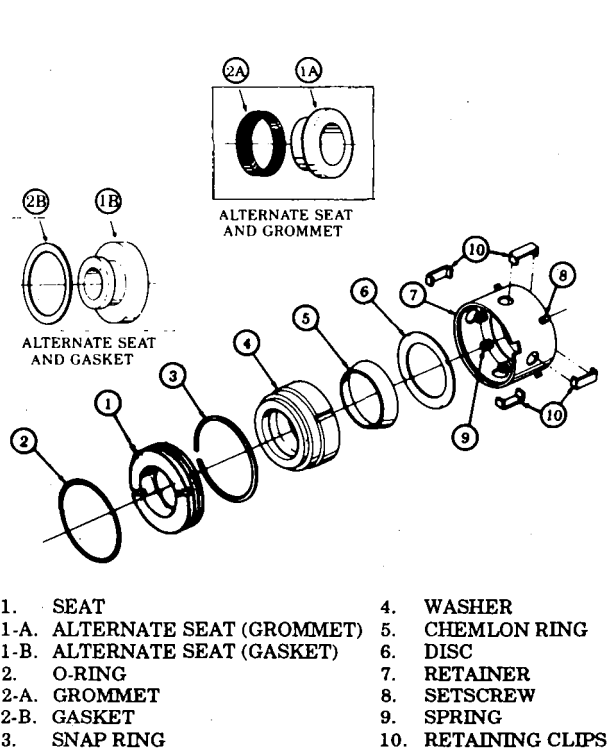
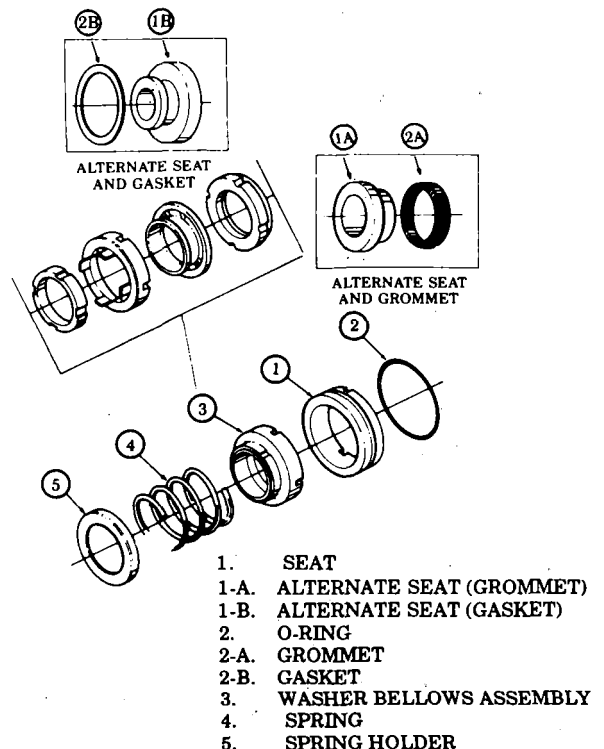

FIGURE 3. Crane Type 9 Mechanical Seal.
FIGURE 4. Crane Type 21 Mechanical Seal.
- (1) Pump model precedes rotor size. EXAMPLE: CB324AD-162.
- (2) Figure 7 pumps can be equipped with either Figure 3 or 4 seals.
- (3) Mechanical seal, Figures 3 and 4, can be equipped with either seal seat as illustrated in Figures 7 and 8.
- (4) C324A pumps with double extended power rotors are special design pumps, denoted by X in model designators. A bill of material suffix follows rotor size designator.
Figure 7: Remove bolts (046), seal cover (045) and gasket (044). **NOTE:** Mechanical seal seat will be removed with seal cover (045). Remove mechanical seal seat with O-ring or seal seat with brommet (Figure 8) from seal cover (045). Remove O-ring (2) from seat (1) (Figure 3 or 4) or grommet (2A) from seat (1A) (Figure 3 or 4). Remove mechanical seal rotating parts (3 through 9, Figure 3) or (3 through 5, Figure 4), shim (043) and spacer (042) from power rotor (013).
Install O-ring (2, Figure 3 or 4) on seal seat (1, Figure 3 or 4), or grommet (2A, Figure 3 or 4) on seal seat (1A, Figure 3 or 4). Slide assembled seal seat in seal cover (045). Measure thickness of power rotor bore of seal cover (045) including mechanical seal thickness and identify measured distance as "Y". Determine required thickness of shim (043) by adding seal working length "S" to thickness of seal cover bore "Y" and subtracting the total from power rotor length "X".
Crane 9 Mechanical seal (Figure 3): Slide mechanical seal rotating parts (3 through 10) on power rotor (013) until retainer (7) contacts shim (043). Remove and discard retaining clips (10). Slide seal on power rotor until contact is made between seal retainer (7) and shim (043). Tighten setscrews (8).
Crane 21 Mechanical Seal (Figure 4): Slide mechanical seal rotating parts (3 through 5) on power rotor (013) with spring holder (5) next to shim (043).
STEP 13. Install gasket (044) and seal cover (045) using bolts (046). Torque bolts (046) to 20 lbs. ft. (± 2 lbs. ft.).
STEP 6. Remove bearing nuts (016), bearing washer (015) and spacer (028) from power rotor (013).
STEP 7. Remove bolts (020). Insert two (2) jacking bolts in bearing housing and remove and disassemble bearing housing as described in Step 3.
STEP 8. Remove mechanical seal (006), bolts (002), cover (017) and gasket (004). Remove mechanical seal seat (1B, Figure 3) and gasket (2B, Figure 3) from cover (017).
STEP 9. Remove shim (021) from power rotor (013).
STEP 10. Grasp power rotor (013) and pull idlers (027) and power rotor (013) from clamped end of pump case. NOTE: As rotor assembly slides from housings, wrap the rotors with a sling to prevent accidental dropping or to assist in holding the rotors in mesh for easy removal.
STEP 11. Remove plugs (007) from case (001). Stop pins (011) are match-marked with case (001) to identify correct installed location and position. If stop pins are to be replaced, or if marks are not visible, make new markings before removal of pins. If new housings are required, new stop pins must be installed for correct fitting. Install a 3/8-inch-16 bolt in each stop pin and remove stop pins (011). Tag each stop pin with installed location.
STEP 12. Slide housings (010) from case (001). Remove spiral rings (003) from housings (010).
STEP 3. Slide mechanical seal rotating parts (3 through 10, Figure 3) on power rotor (013) until retainer (7, Figure 3) contacts step-cut shoulder of power rotor. Remove and discard retaining clips (10, Figure 3). Position seal on power rotor at marked areas for setscrews and tighten setscrews.
STEP 4. Install gasket (004) and cover (017) using bolts (002). Install gasket (2B, Figure 3), furnished with seal in cover (017). Slide seal seat (1B, Figure 3) on power rotor next to gasket in cover (017). Slide truarc ring (012) on power rotor and position truarc ring in power rotor groove.
STEP 5. Install spiral ring (009) in bearing housing (008) and slide bearing housing (008) into cover (017) bore. Install ball bearing (014) in bearing housing (008). NOTE: If it is necessary to tap ball bearing for installation in housing, tap only on inner race of bearing.
STEP 6. Install bearing retainer on bearing housing using bolts (019). Slide spacer (028) on power rotor (013) next to ball bearing (014). Install bearing washers (015) and bearing nuts (016). Bend down one tab of washer (015) into corresponding groove on bearing nut (016) and torque bearing nuts to 20 lbs. ft. (+5, -0 lbs. ft.).
STEP 7. Prior to installation of mechanical seal (006), seal working length must be verified and required shim thickness must be determined. Install gasket (004) and cover (017) with bolts (002). Scribe power rotor lightly where rotor begins to protrude through cover (017). Remove cover (017) and gasket (004). Measure distance from scribe mark on power rotor to step cut shoulder of power rotor and identify distance as "X". Measure cover (017) from face of seal seat bore to face of cover, and identify distance as "A". Measure thickness of seal seat (1B, Figure 3) by measuring from face which fits into bore of cover (017) to outer face which sits next to rotating parts of seal and identify distance as "B". Seal working length is 1-3/8-inch ($\pm 1/64$ -inch) and should be identified as distance "C". Add distance "A" and "B"; subtract 0.006 for compression of seal gasket and add distance "C". Identify resulting distance as "Y".
STEP 8. Slide desired thickness of shim (021) on power rotor (013) next to step-cut shoulder of rotor.
STEP 9. Assemble mechanical seal rotating parts on power rotor as outlined in Step 3 for clamped end of pump. NOTE: Seal retainer (7, Figure 3) will be next to shim (021) rather than the step-cut shoulder of power rotor (013).
STEP 10. Install gasket (004) and cover (017) with bolts (002). Slide gasket furnished with mechanical seal in cover (017) seal seat bore. Install seal seat in cover (017) seal seat bore. Slide truarc ring (012) in ring groove of power rotor (013).
STEP 11. Slide bearing housing (008) into cover (017) housing bore and install bolts (020) in bearing housing (008). Install ball bearing (014) in bearing housing (008). NOTE: If bearing does not slide easily onto power rotor and it is necessary to tap the ball bearing for installation, tap only on inner race of bearing.
STEP 12. Install spacer (028) on power rotor next to ball bearing (014). Install bearing washers (015) and bearing nuts (016). Bend down one tab of washer (015) into corresponding groove of nut (016). Torque bearing nuts to 20 lbs. ft. (± 5 , -0 lbs. ft.).
STEP 13. Install keys (022), coupling hubs, and pump piping.
STEP 2. Remove bolts (028), bearing retainer (020) and bearing nut (019).
STEP 3. Remove capscrews (021) from bearing housing (016). Insert two 1/2 X 1-1/2 inch jacking bolts in bearing housing (016), and tighten jacking bolts evenly to remove bearing housing and ball bearing (018). Remove jacking bolts from bearing housing (016). Remove ball bearing (018) and spiral ring (027) from bearing housing (016). Remove support washer (029) and truarc ring (017) from power rotor (011).
STEP 4. Remove bolts (002), cover (010) and gasket (013) from pump case (001). Remove seal seat and gasket from cover (017). NOTE: Crane Type 21 mechanical seals with O-ring seat (1 and 2, Figure 4) can be used on Figure 10 pumps. When using this seal seat arrangement, a seal seat adapter and gasket are installed to provide a clamped seat arrangement for the mechanical seal.